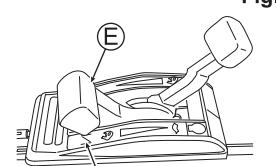

Fig. 11
- 3 Set Throttle lever (E) to Choking "|\|". (See Fig. 11) (The engine can start by setting the lever at "|\| when it is warm.)